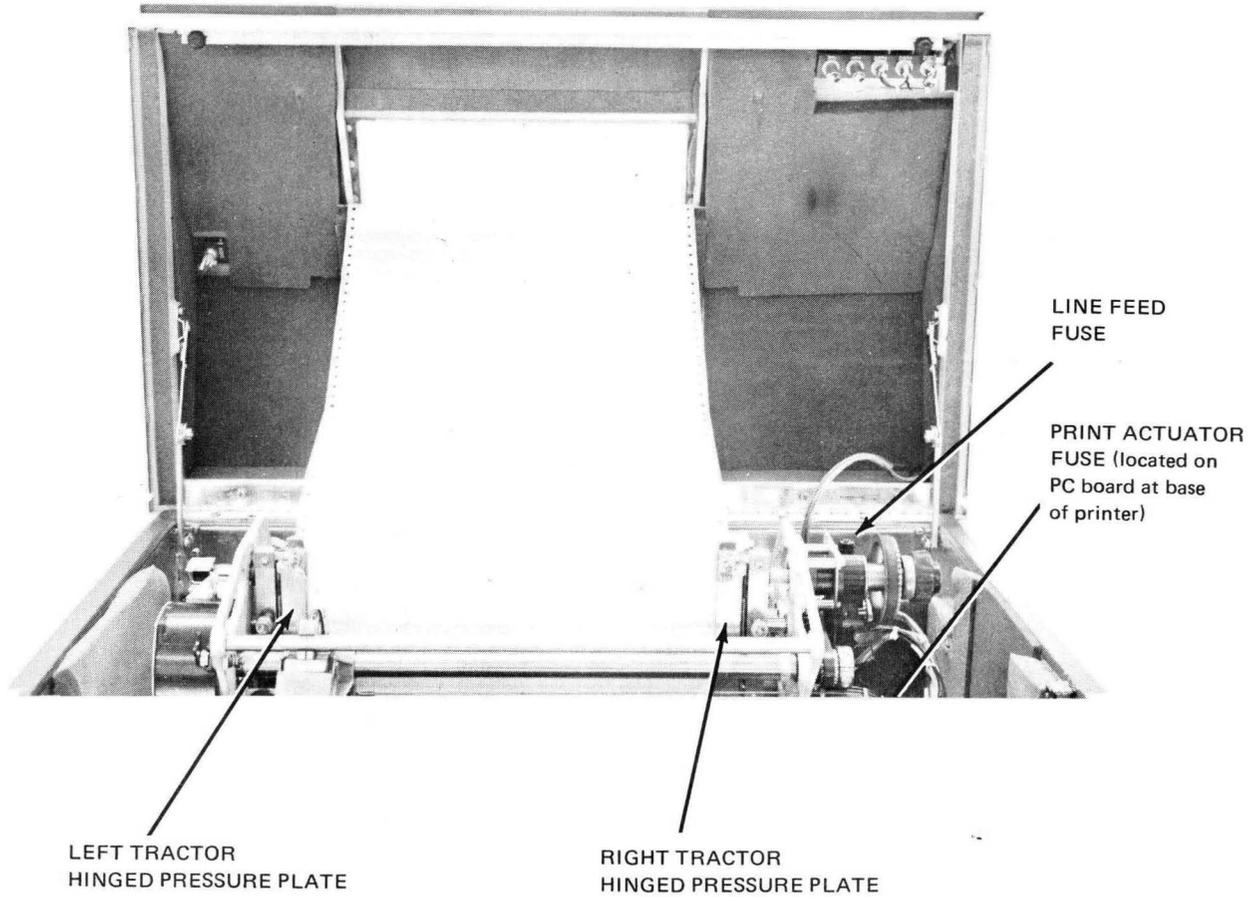

Figure 4-1. Incremental Printer with Access Cover Raised
1. Raise the incremental printer access cover (Figure 4-1).
2. Lift the hinged pressure plates on the right and left tractors (Figure 4-1).
1. Open the incremental printer access cover (Figure 4-1).